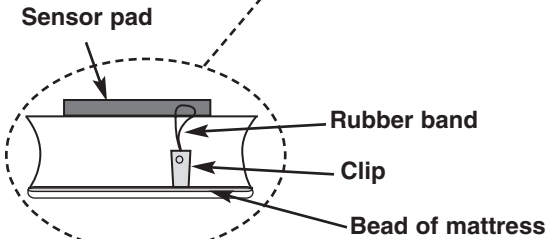

Figure 4
2. Using the band and clip package provided with the sensor pad, fasten the sensor pad to the mattress (**Figure 4**). Make sure the sensor pad is face up, is fastened securely, and lays flat against the mattress.